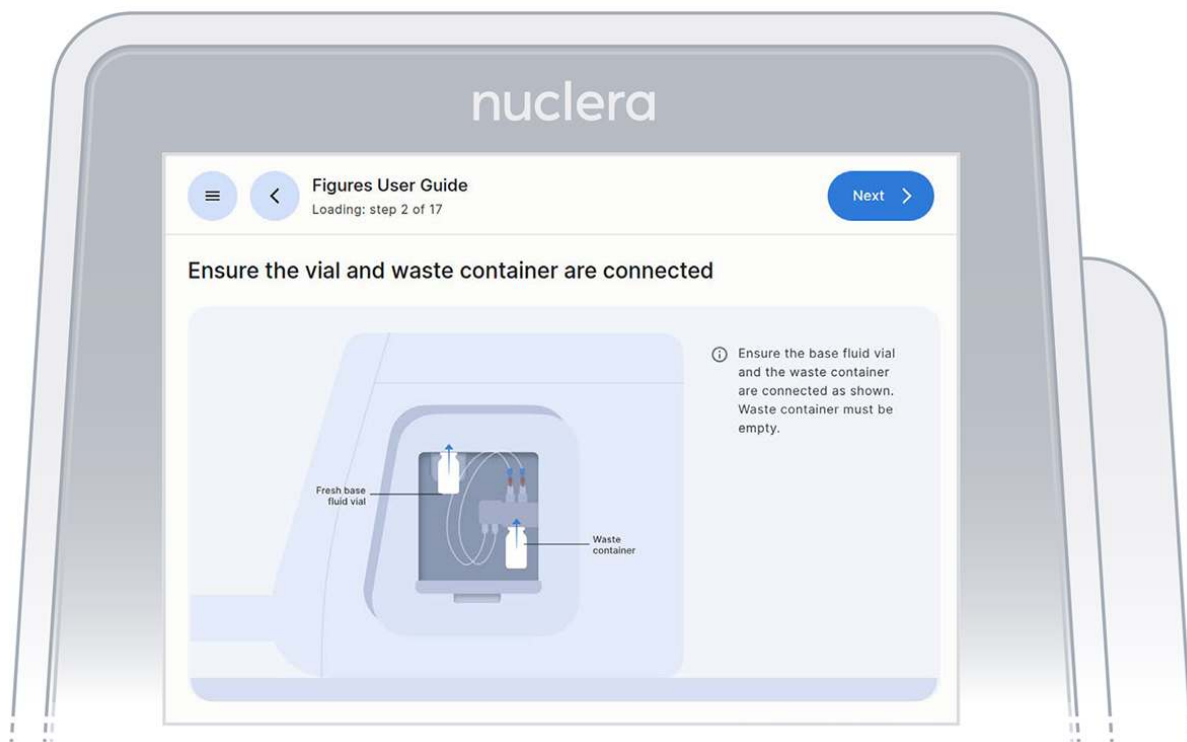

Figure 14: Vial of base fluid and the waste container connected to the pump as shown on the screen
2. Ensure the vial of base fluid and the waste container have been connected to the pump located on the right hand side of the instrument. Press the [Next] button (Figures 14).